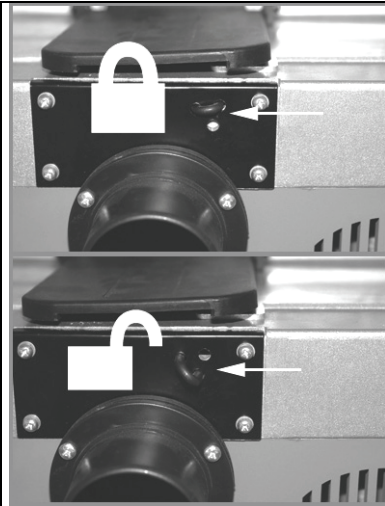

Fig. 4
The shaft protection should be enabled before switching the unit on (Fig. 4).
3. Check the shaft lock position (Fig. 4). The shaft has to be unlocked for operation.